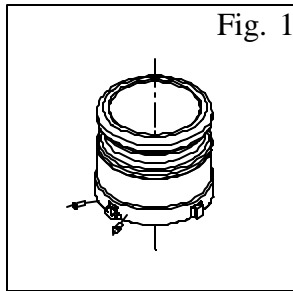

Fig. 1
STEP 1: PRIOR TO INSTALLATION remove the two set screws from the B-70 (see Fig. 1). Holding the B-70 upside down, apply grease lightly to the #21 seal gasket on the exposed face only.